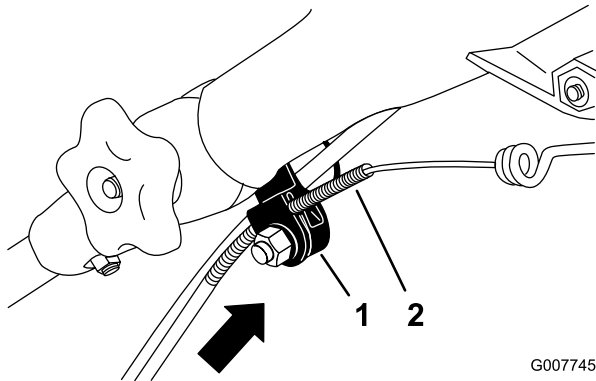

**Figure 50**
- Pull the cable jacket downward until you remove the slack in the exposed cable (Figure 50).